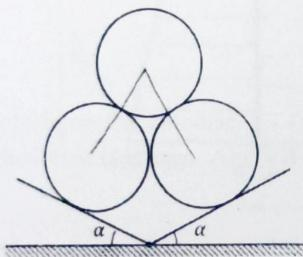

Fig 2.104
- 3) Three identical smooth rollers, each of mass M and radius r are stacked on two inclined surfaces as shown in the fig 2.104 Each surface is inclined at an angle α with the horizontal. Determine the smallest angle α to prevent the stack from collapsing. (Ans: $\alpha = 10.89^\circ$)